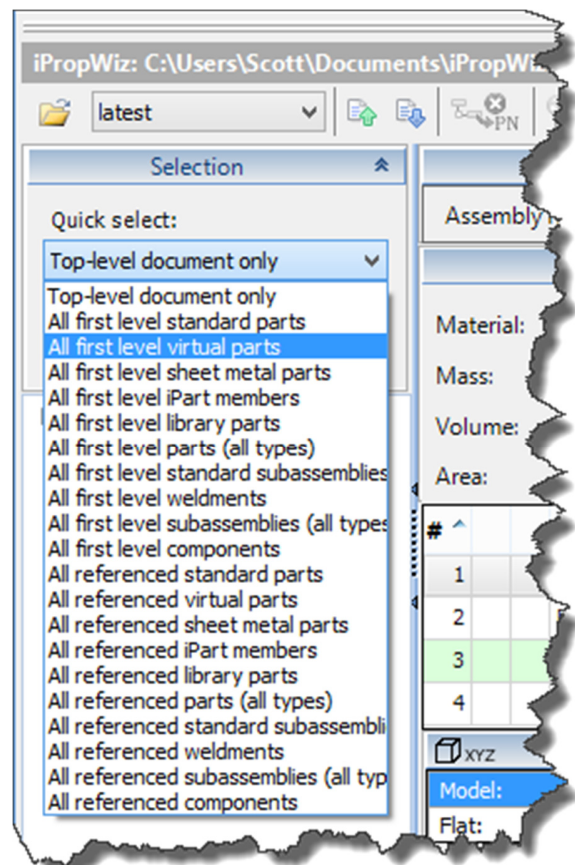

Figure 13: There are a lot more filters in this release
- Raft of new filters have been added in the quick select list. (Figure 13)